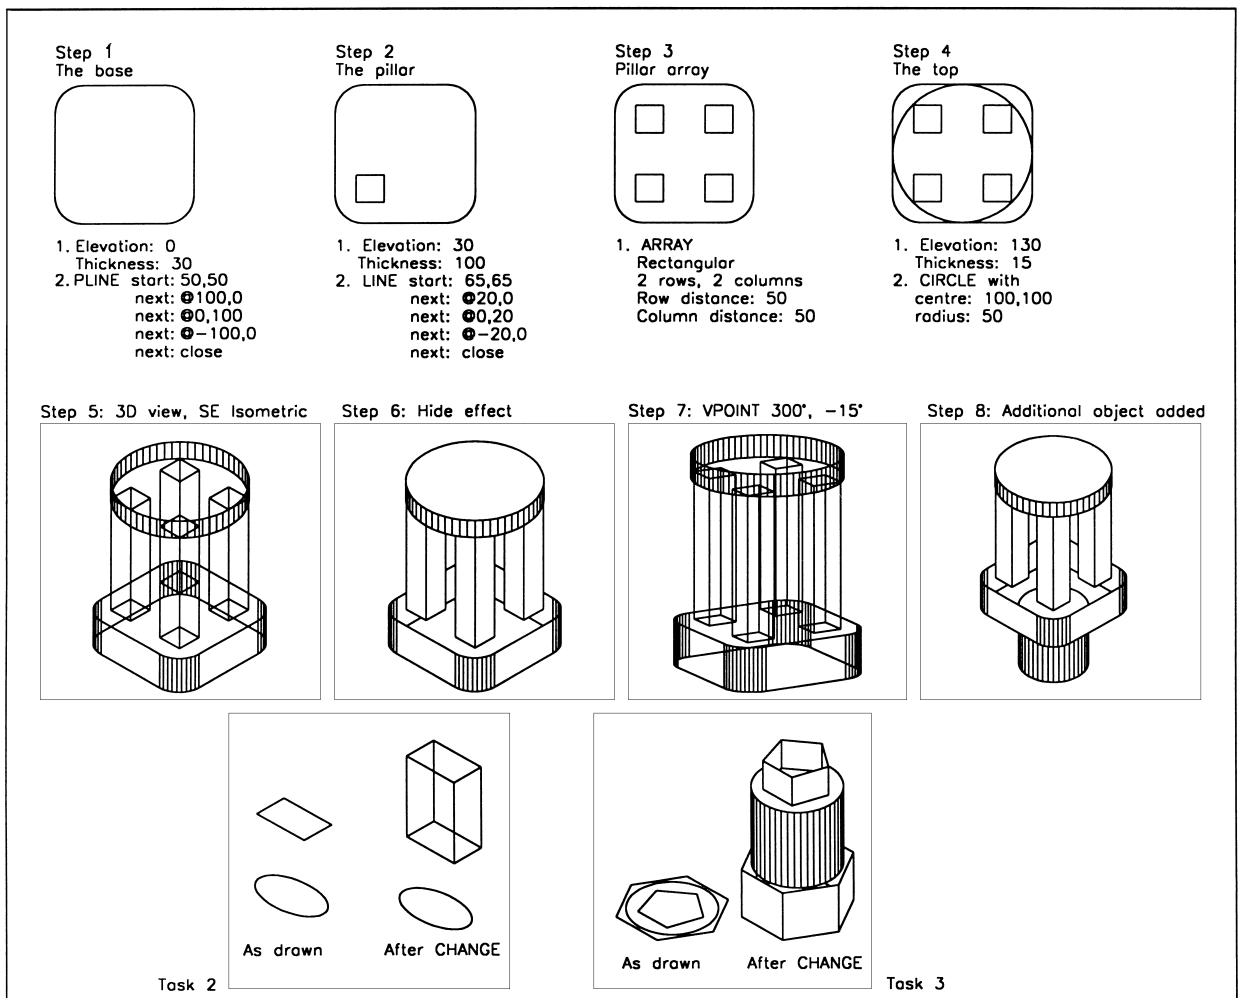

Figure 2.3 Extruded example 2.
- 1 Open your 3DSTDA3 template file, layer MODEL current and refer to Fig. 2.3